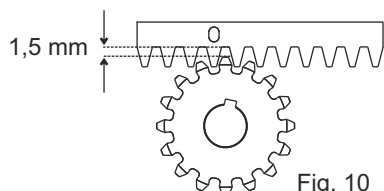

Fig. 10
5.6. To avoid that the door weights down on the pinion (Fig.10) lift up the whole rack about 1,5 mm.